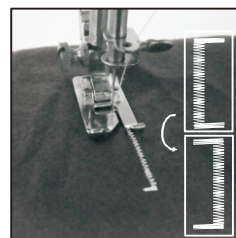

Fig.18
- (5) Raise the presser foot, rotating the cloth for 180° (Fig 18)